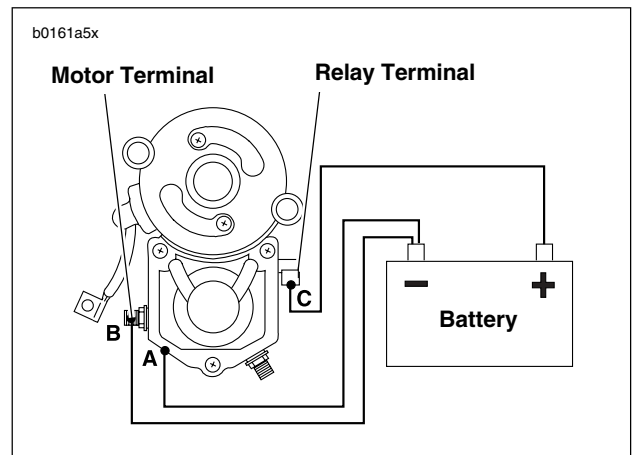

Figure 5-12. Pull-In Test
Do not disassemble solenoid. Before testing, disconnect field wire from motor terminal as shown in Figure 5-12.
- See Figure 5-12. Using a 12 volt battery, connect three separate test leads as follows: